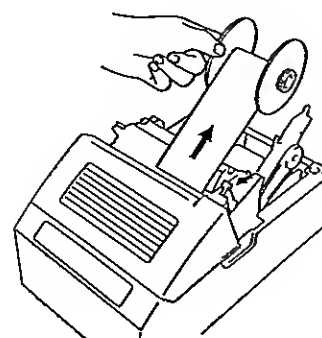

Fig. 2
- 3) Lift the green lever on the journal side. Lift the take-up reel to remove paper. (Fig. 2)